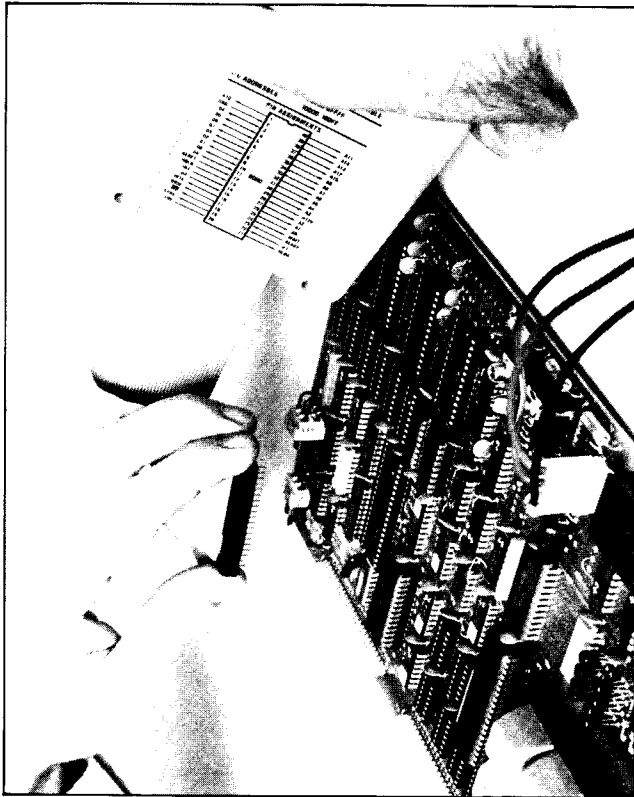

Figure 2-3. Connection of Interface Pod to UUT
7. Align the ribbon-cable with the microprocessor socket on the UUT so that the notched corner of the ribbon cable plug aligns with pin 1 of the socket. Insert the plug into the socket as shown in Figure 2-3.